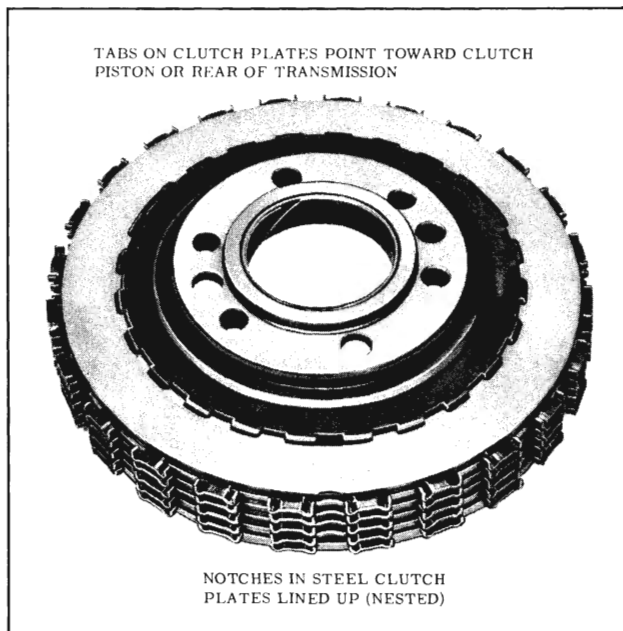

Fig. 3-261 Assembling Clutch Plates
6. Install five composition drive and five steel driven front clutch plates alternately, nesting them as follows: (Fig. 3-261)